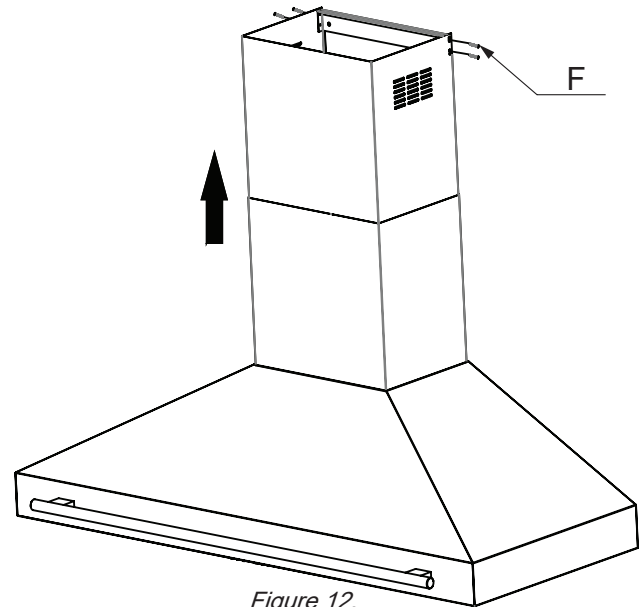

Figure 12.
- Extend the upper chimney section (2.1) upward until the vertical vent slots are fully visible and aligned with the chimney mounting bracket. Figure 12.
- Secure the upper section to the bracket using the provided M4 × 0.472" screws (F). Make sure both chimney sections are stable, aligned, and firmly seated. Figure 12.